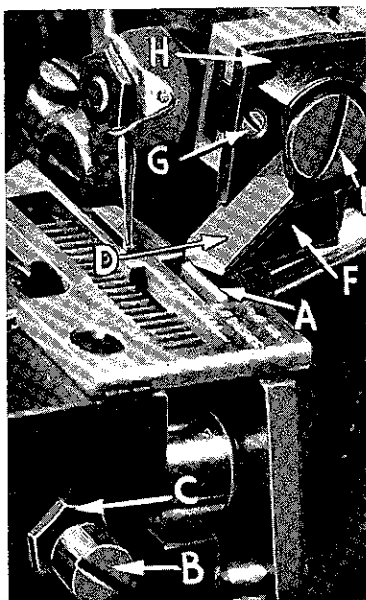

Fig. 12
Replace lower knife holder assembly. Lower knife (A, Fig. 12) should be set with cutting edge flush with throat plate surface. Adjustments are made with hexagonal head screw which holds lower knife. Lower knife is spring pressed against upper knife, so no lateral adjustment is necessary when width of trim is changed.
Replace upper knife assembly. Clamp upper knife (D, Fig. 12) in position, setting screw (E) to hold clamp (F) in its most clockwise position against upper knife. At bottom of its stroke, front cutting edge of upper knife should extend not less than  $1/64$  inch below cutting edge of lower knife.